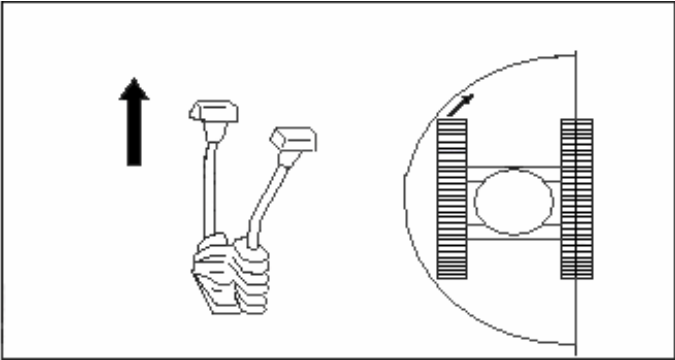

Fig 3-35
11. If only control one operating rod forward or backward, the excavator will circle around the still track shoe. (Fig 3-35)